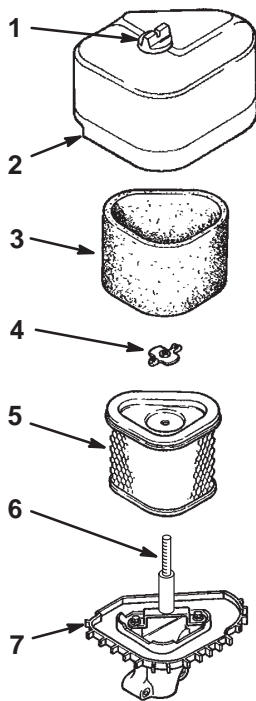

Figure 27
2. Clean around the air cleaner to prevent dirt from getting into the engine and causing damage. Unscrew the knob and remove the air cleaner cover (Fig. 27).
3. Remove the wing nut and slide the foam and paper air cleaner assembly off of the stud (Fig. 27).
4. Carefully slide the foam element off of the paper element (Fig. 27).
1. Carefully slide the foam element onto the paper air cleaner element (Fig. 27).
2. Place the air cleaner assembly onto the air cleaner base (Fig. 27).
3. Install the air cleaner cover and secure it with the cover nut (Fig. 27).